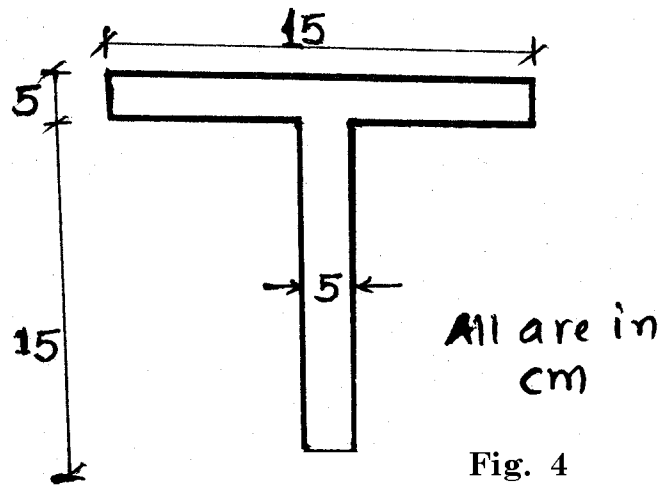

Fig. 4
- 6 (a) A T shaped beam shown in figure 4. If a bending moment of 3400 N.m. is applied around the horizontal neutral axis. Determine the bending stresses at top and bottom fibre of the beam. Nature of bending moment is sagging also plot bending stress distribution diagram. 11